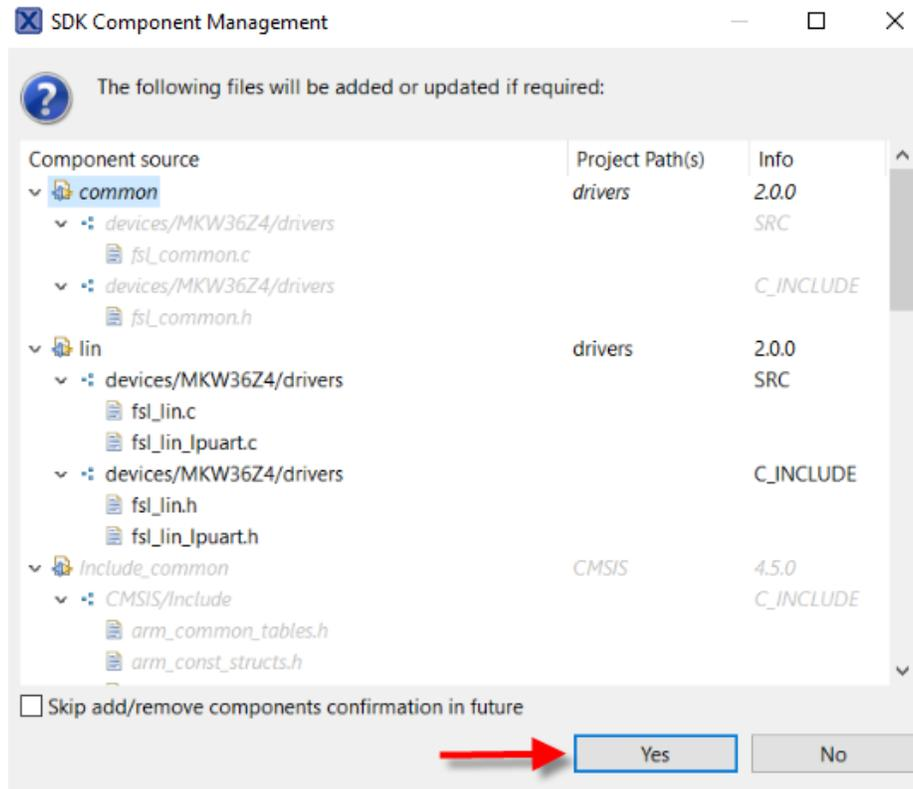

Figure 11. SDK Component Management window
3. A new window will appear to confirm the files which will be added/updated, click “Yes” Figure 11.